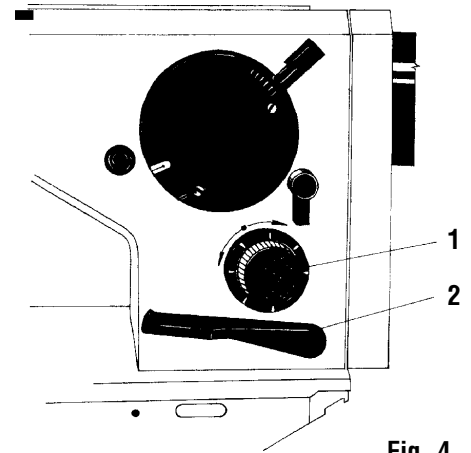

Fig. 4
7. Setting of the feeding length (Fig. 4)